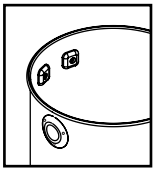

FIGURE 12
15. Position the tank, in the upright position, with the inlet facing you. Put the support assemblies inside the tank, then place the screws through the holes provided on left side of the tank. Make sure the plastic portion is located inside the tank. Turn the supports until the back of the supports fit flush against the inside curve of the tank. **FIGURE 12.**